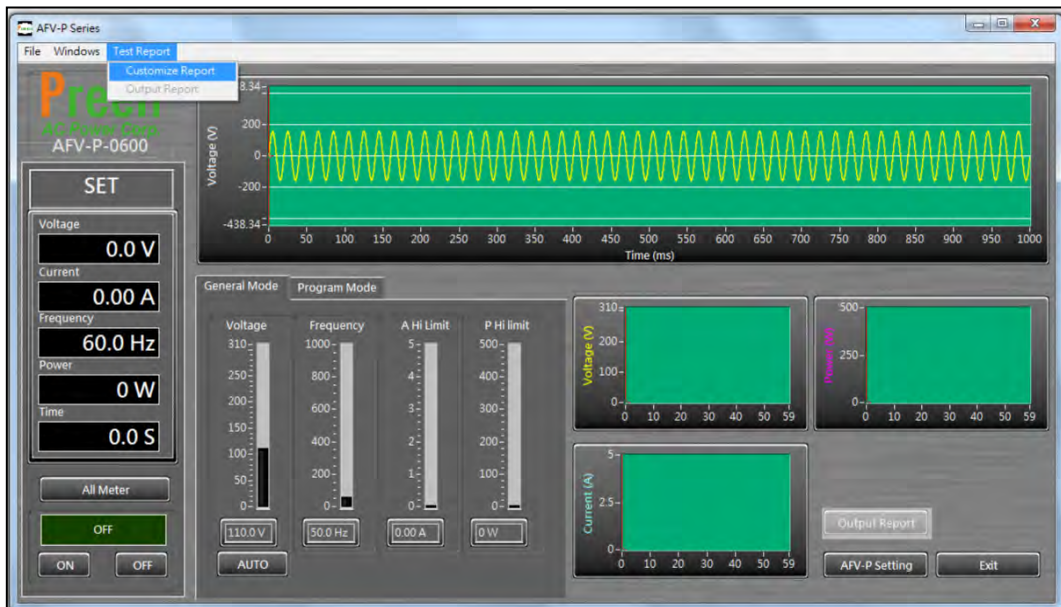

Figure 7.13 Item “Test Report” and Item “Customize Report”
- 1 Click the item “Test Report”, and then click the item “Customize Report” (see Figure 7.13).